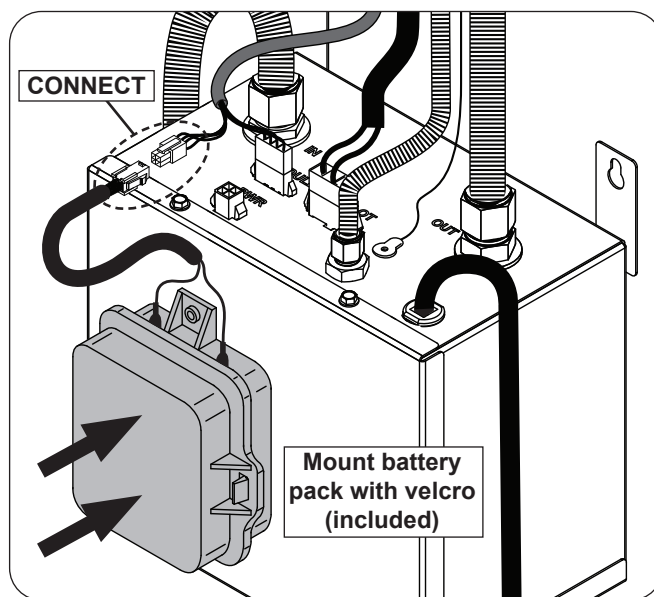

Fig. 31-2 Mount and connect battery pack
4. Peel the velcro protective plastic and mount the battery pack to the side of the control box (optional). See Fig. 31-2.
5. Connect the battery pack wire to the power source connector wire that was previously disconnected (see Fig. 31-2).